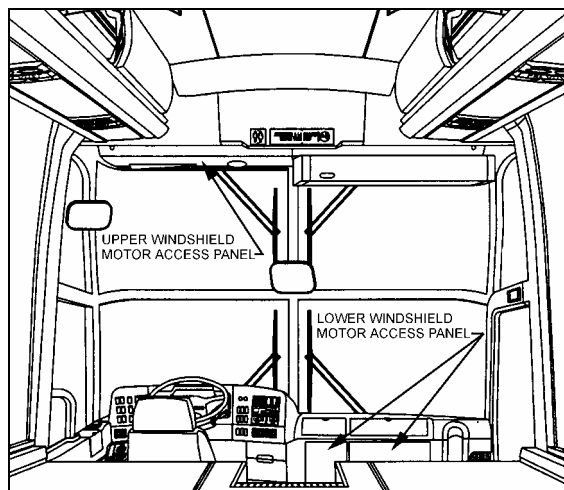

FIGURE 31: WIPER MOTORS LOCATION
The windshield wipers are controlled by two electric wiper motors that are accessible for maintenance after raising the appropriate access panel at the front of the coach (refer to figure 31).
5. Install the right wiper arm in its normal position (in the middle of the windshield (Fig. 31)). Refer to paragraph "9.2.1 Sweep Adjustment".
7. Install the left wiper arm in its normal position (in the middle of the windshield (Fig. 31)). Refer to paragraph "9.2.1 Sweep Adjustment".
3. Install the left wiper arm in its normal position (in the middle of the windshield (Fig. 31)). Refer to paragraph "9.2.1 Sweep Adjustment".
The lower windshield wiper motor is located at lower front of the vehicle, behind the defroster panel. Refer to figure 31 for motor location.
The upper windshield wiper motor is located above L.H. upper windshield panel, refer to figure 31 for motor location. To remove the motor, it is necessary to remove left sun visor and upper windshield panel.